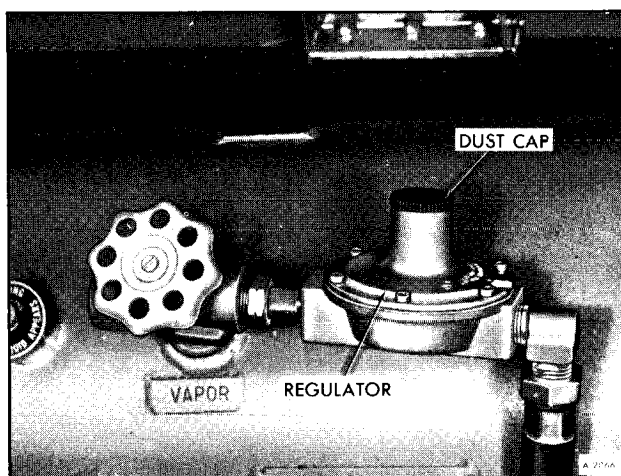

Figure 2-Regulator
The regulator shown in Figure 2 is adjustable and is set at the factory to deliver LP gas at a rate of eleven inches of water pressure as measured on a monometer.
3. Remove the dust cap from the top of the regulator (See figure 2).